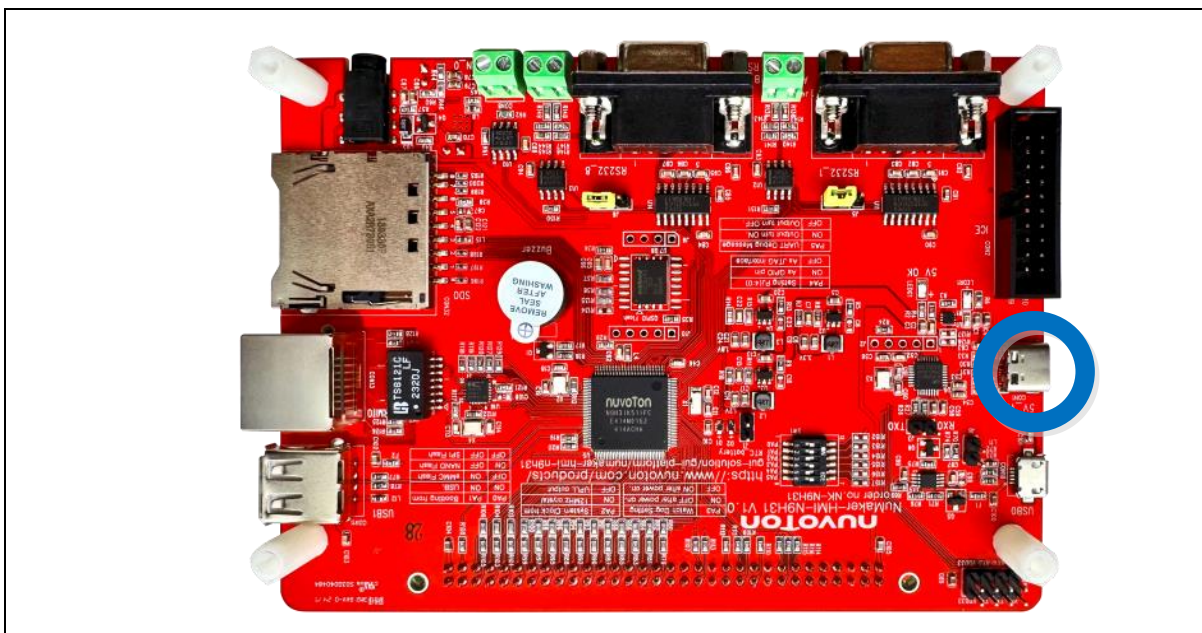

Figure 4-6 USB-Serial Debug Port
1. Connect USB-Serial connector shown in Figure 4-6 to the PC USB port through a USB Type C cable.